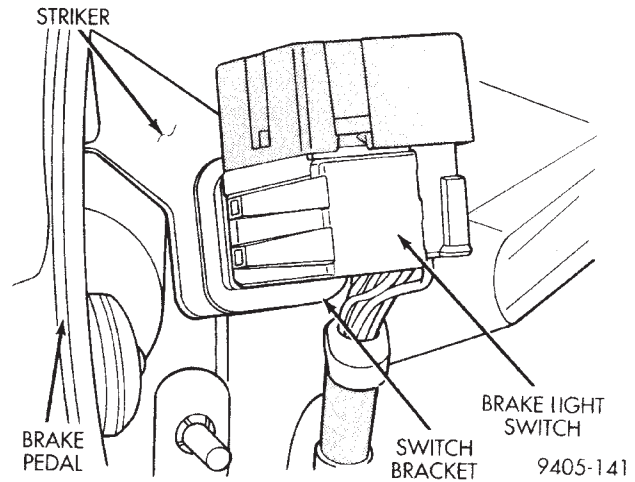

Fig. 118 Stop Lamp Switch
(3) Remove the stop lamp switch from the brake pedal bracket. Stop lamp switch is removed using the following procedure. Depress and hold the brake pedal while rotating stop lamp switch (Fig. 118) in a counter-clockwise direction approximately 30 degrees.
(6) Using Mopar Lubriplate or an equivalent, lightly lubricate the surface of the brake pedal striker (Fig. 118) which the plunger of the stop lamp switch contacts.
(7) Hold stop lamp switch firmly in one hand. Using other hand, pull outward on the plunger of the stop lamp switch until it has ratcheted out to its fully extended position.
(8) Connect the wiring harness connector to the stop lamp switch.
(9) Install the stop lamp switch in the brake pedal bracket. Stop lamp switch is installed using the following procedure. Depress the brake pedal as far down as possible. Then while holding brake pedal down, align index key on switch with slot in square hole of mounting bracket. When switch is fully installed in bracket, rotate stop lamp switch (Fig. 118) in a clockwise direction approximately 30 degrees.
CAUTION: Do not use excessive force when pulling back on brake pedal to adjust the stop lamp switch. If too much force is used, damage to the stop lamp switch or striker (Fig. 118) can result.